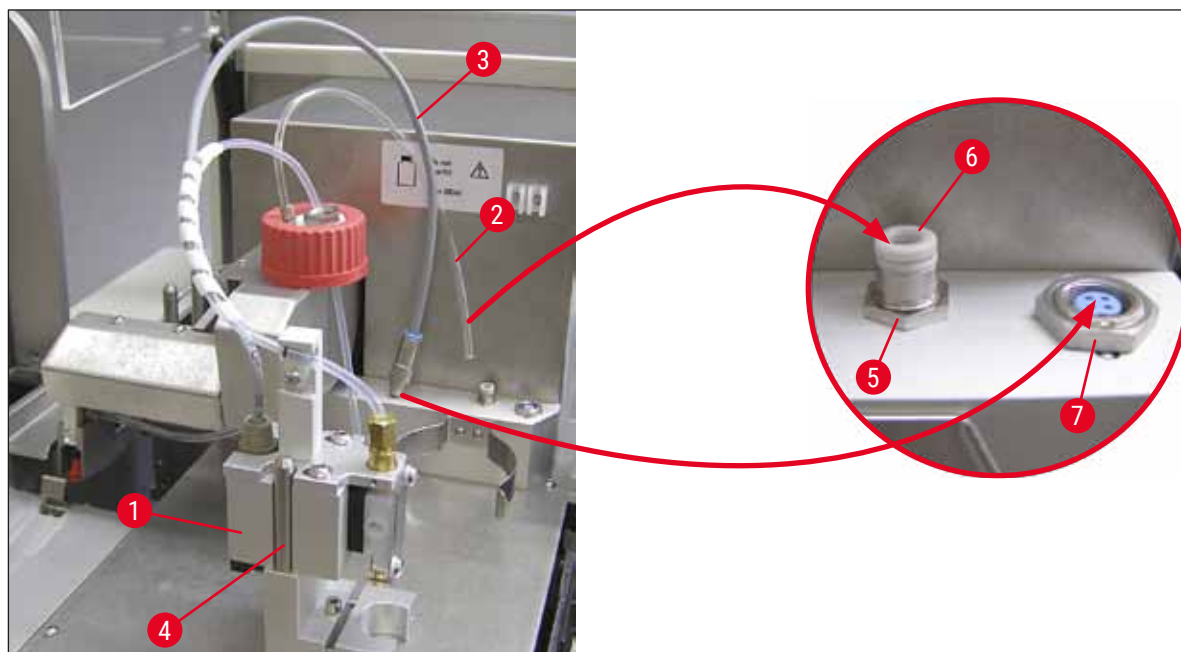

Fig. 11
2. Sett dispenseren (→ Fig. 11-1) inn i holderen (→ Fig. 11-4) for prime-posisjonen (→ Fig. 11).